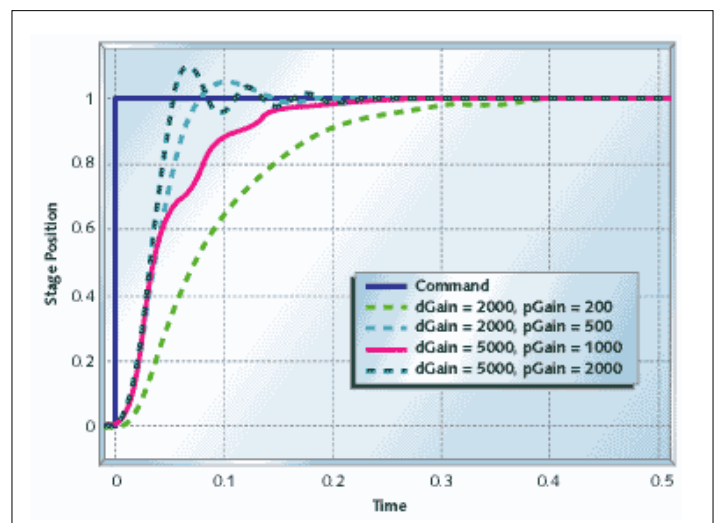
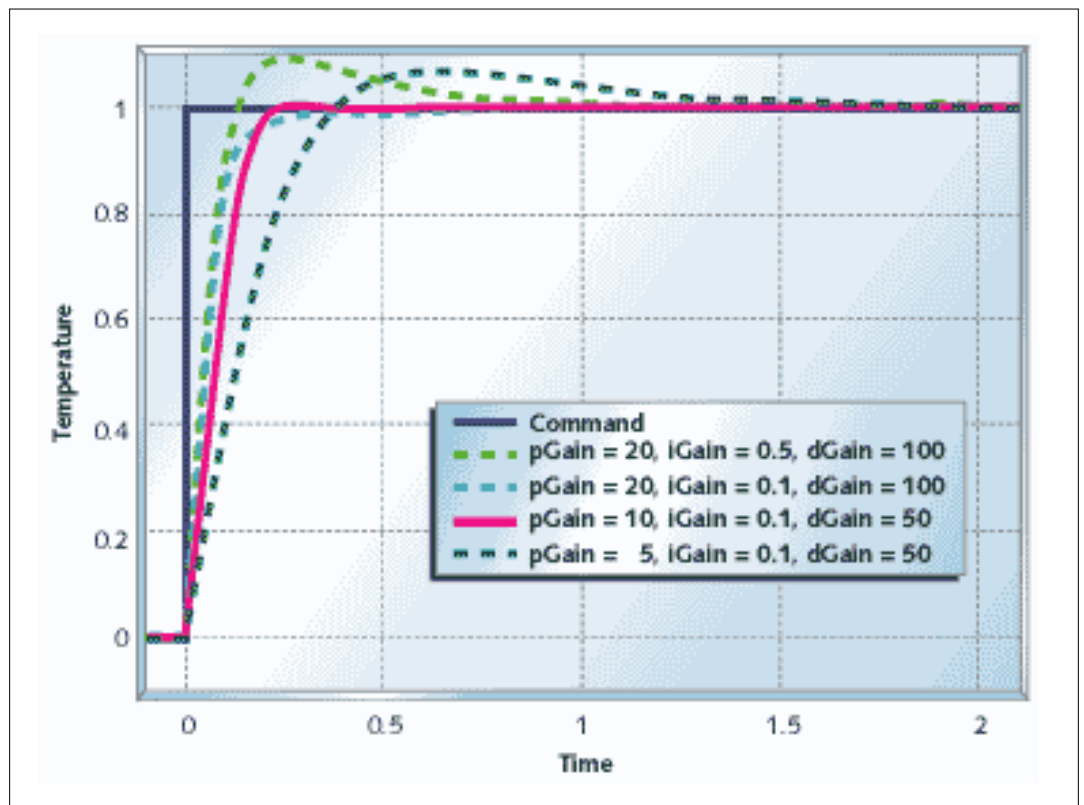

Figure 17
Figure 18
With differential control you can stabilise the precision actuator system. **Figure 17** shows the response of the precision actuator system with proportional and derivative (PD) control. This system settles in less than 1/2 of a second, compared to multiple seconds for the other systems. **Figure 18** shows the heating system with PID control. You can see the performance improvement to be had by using full PID control with this plant.